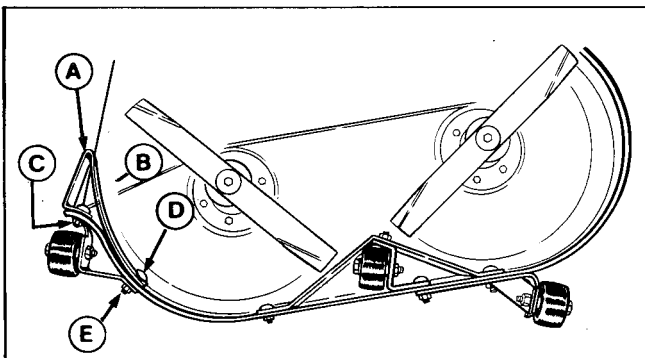

Figure 6.
- Turn the mower deck upright and block in this position. Install the baffle (A, figure 6) as shown. For decks without rollers, install retainer nut (B) in baffle, then screw the 1/4" whizlock screw (C) into retainer nut. For decks with roller, use existing hardware to mount baffle (A). Insert 1/4" carriage bolt (D) from inside deck and install lockwasher and nut (E). Return mower deck to flat position.